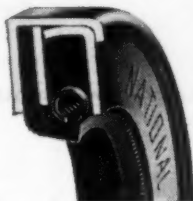

Fig. 3—National 50,000 series leather oil seal
In this drum shaft section, five single-lip, spring-loaded National 50,000 series seals (Fig. 3) are employed. Near the clutch position (A) two of these seals are mounted in tandem to provide protection against leakage into the clutch. The lubricating system places the relatively large oil seals